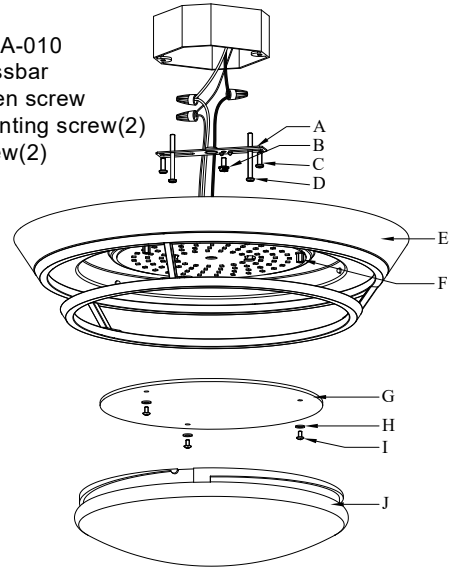

Fig.2
CONNECTING THE WIRES (Fig. 2)
6. Connect the electrical wires as shown in Fig.2, making sure that all wire nuts are secured. If your junction box has a ground wire (green or bare copper), connect the fixture's ground Wire to it. Otherwise, connect the fixture's ground wire directly to crossbar (A) using green screw (B) provided.